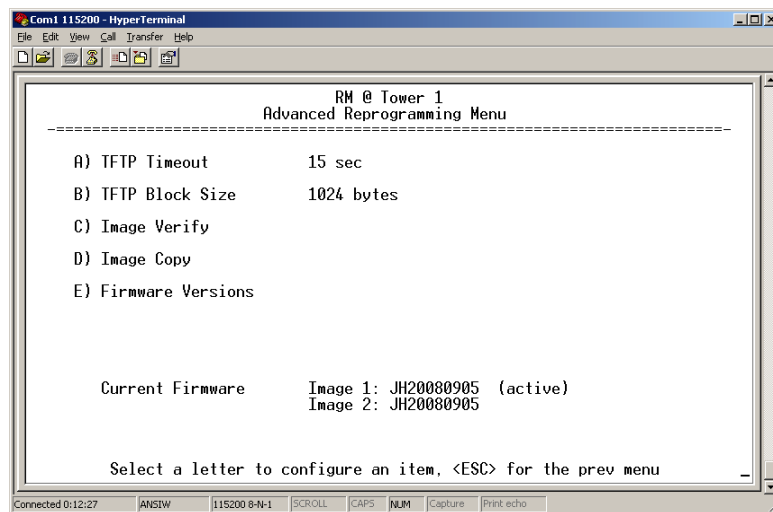

Figure 3-108. Advanced Reprogramming Menu
- **Advanced Reprogramming**—Advanced configuration options for TFTP transfer of firmware files. See Figure 3-108 and related text descriptions.